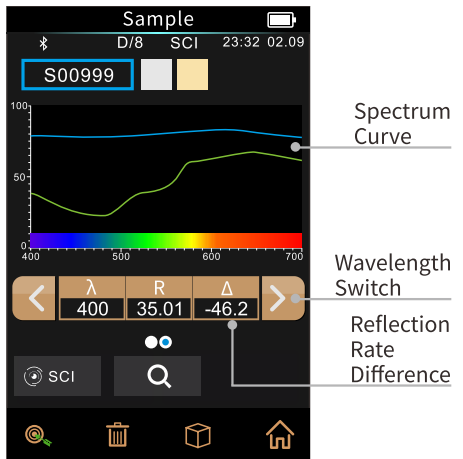

Figure 12 Standard sample measurement spectrum display interface
11) Wavelength switching button :   As shown in Figure 12, Click the button to switch between the current measurement of the sample wavelength, sample reflectance, and the difference in reflectance between the sample and the standard sample at 10nm intervals.